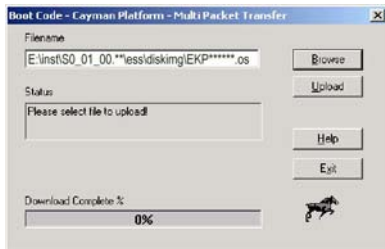

Figure 7 Loading EKP***.os
- i. Select Browse (Figure 7).
NOTE: After FTP Server and Ethernet Controller File loads, Browse for Folder window displays (Figure 7).